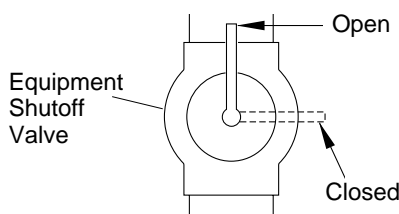

Figure 15 - Equipment Shutoff Valve
1. Close equipment shutoff valve (see Figure 15).
1. Open equipment shutoff valve (see Figure 15).
4. Check all joints from equipment shutoff valve to control valve (see Figure 15). Apply mixture of liquid soap and water to gas joints. Bubbles forming show a leak.